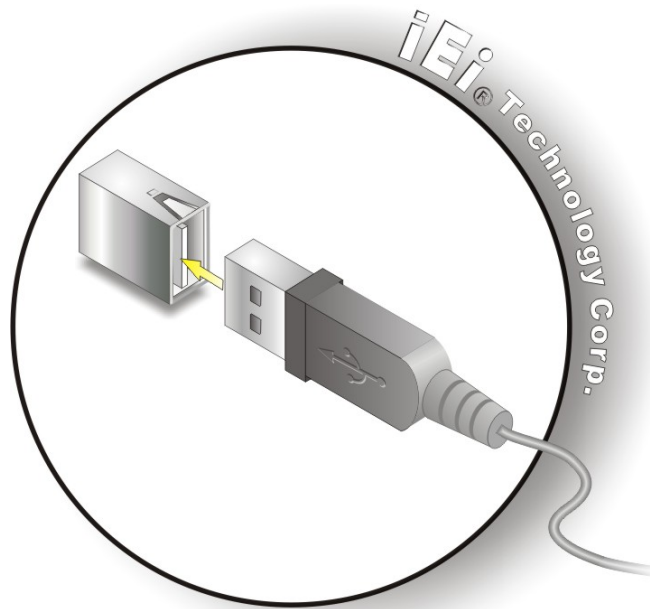

Figure 5-17: USB Device Connection
Step 2: **Align the connector**. Align the USB device connector with the connector on the WSB-Q354. See **Figure 5-17**.